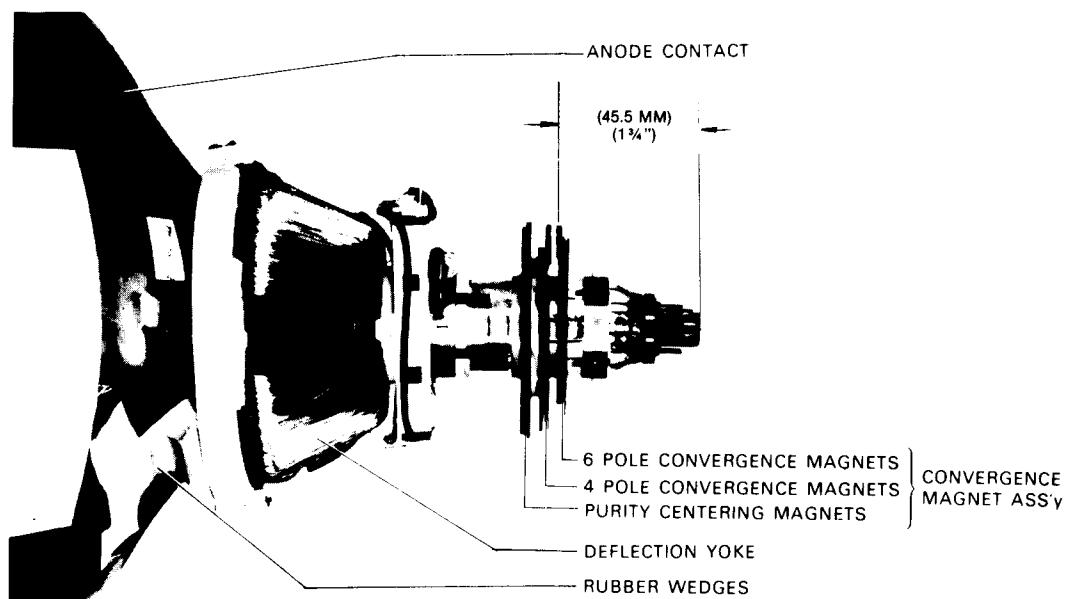

FIGURE 13. PICTURE TUBE NECK COMPONENTS LOCATION
- Insert service tip "N" on Neck circuit board to "S" on Vert./Horiz. circuit board (See Fig. 13). To check, use the green raster at low intensity. Be sure to return the service tips to their original positions for the next check.